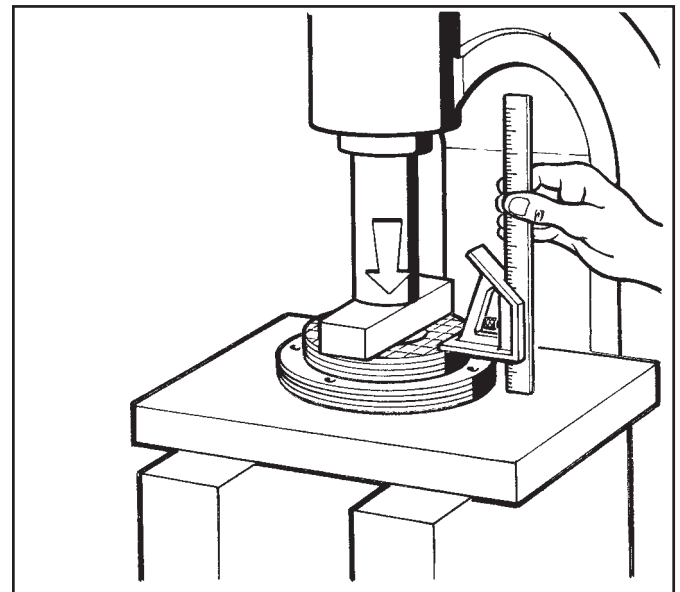

Figure 9.14 - Measuring Stack Heights
(See Figure 9.14)
1. Place the Clutch Stack in an arbor press as shown in Figure 9.14.
1. Place the Brake Stack in an arbor press as shown in Figure 9.14.
1. Place the New Clutch Stack in an arbor press as shown in Figure 9.14.
1. Place the New Brake Stack in an arbor press as shown in Figure 9.14.